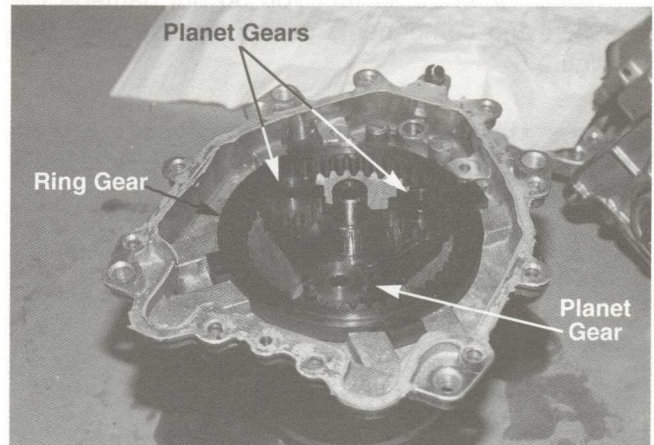

FIGURE 11.
11. Remove the internals from the housing and inspect them for damage. See figures 11 and 12.
12. Remove the ring gear, three planetary gears which come off the carrier, and the carrier which is splined to the shaft. All of these parts should be a slip fit and come off easily. See figures 11 and 12.